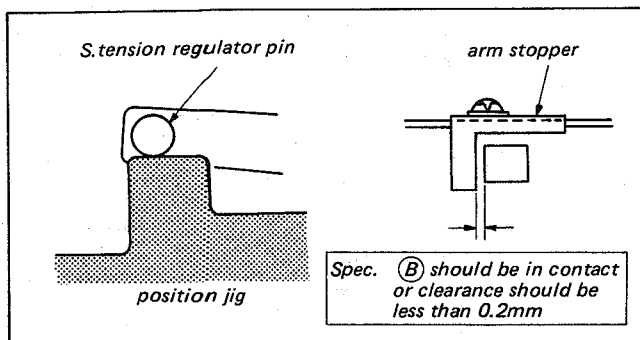

Fig. 4-25. When (A) portion is in contact
Requirement-1 ; When (A) is in contact, Fig. 4-25, (B) should be in contact or the clearance should be less than 0.2 mm.